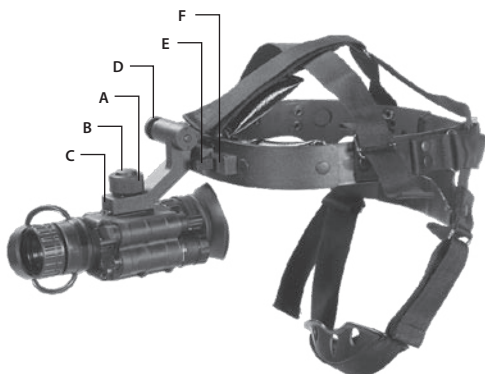

FIGURE 3-2. MOUNTING NYX-14 TO A GOGGLE KIT
2. Loosen the screw (A). While pushing down on the button (B), insert the NYX-14 rail into the guide (C) of the goggle kit bracket. Tighten the screw (A). See Figure 3-2; the unit is shown in the correct positioning for the right eye.
4. To adjust the equipment for greater comfort, loosen the screw (A) and move the unit along the guide (C).
5. The goggle kit has a flip-up mechanism. Push the button (D) of the goggle kit bracket and lift the unit up until it reaches its top position. The unit will automatically turn off when it reaches this position.
6. Push the same button (D) to lower the unit into the correct viewing position. Turn the unit back on to continue your session.
Figure 3-2 shows the NYX-14 in the correct position for the right eye. To readjust the unit for the other eye, remove the unit from the goggle kit bracket. Turn the unit around (180°) and mount it on the bracket through the rail on the second side. With the button (E) pushed, move the unit along the slide-rail (F) until the desired, most comfortable position is reached.